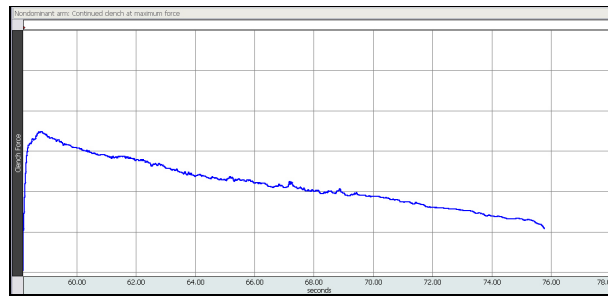

Fig. 2.15 Example Fatigue data
- If similar to Fig. 2.15, click **Continue** to proceed to the optional recording section, or click **Stop** to end the recording.